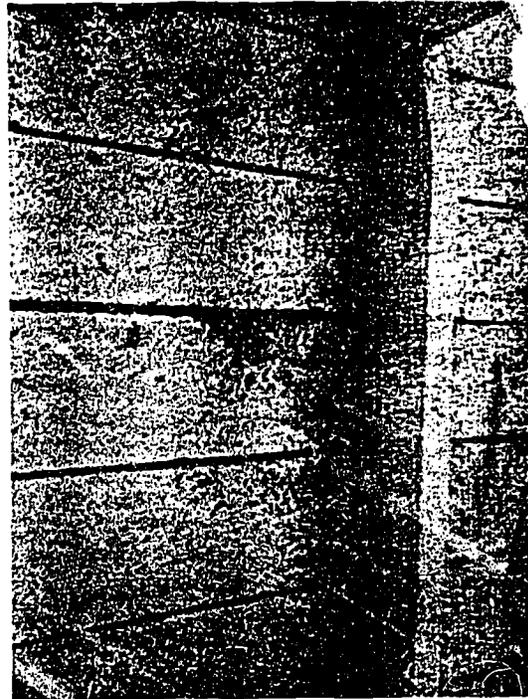

Figure 10. Surface mildew.
a. **Mildew.** In warm, damp climates, mildew may appear on exterior painted surfaces. Elsewhere, it may occur as an abnormality in local areas which remain damp for long periods of time (see fig. 10). Mildew is often difficult to distinguish from soiling by dirt. You should inspect any area you suspect to be mildew with a magnifying glass. Mildew is characterized by thread-like mycelia when it is in the growing stage and by numerous egg-shaped spores when it is dry and dormant. Dirt, in contrast, is usually composed of granular particles of irregular size and shape. Since mildew is a fungi growth, mildewed surfaces must be scrubbed clean before repainting or the infection may come through the new paint. You should wash the area with strong soap and warm water. If possible, you should clean the area with a solution of ¼ pound trisodium phosphate to a gallon of water and then rinse the area with clean water. Always wear rubber gloves to protect your hands while using this solution. Mildewed surfaces, which have been properly washed and treated, normally do not require scraping or sanding prior to painting.